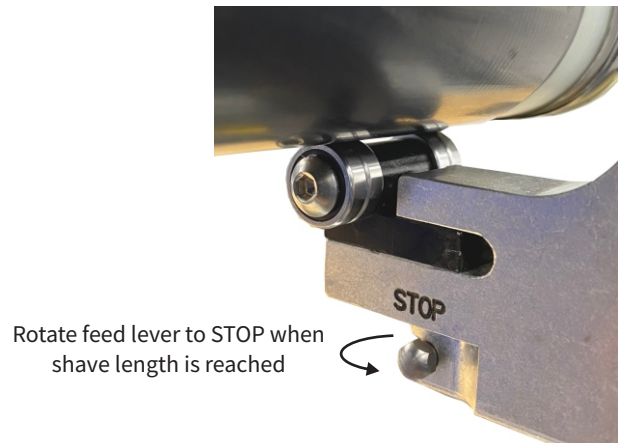

Fig. 4
8. After shaving to the desired length, move the feed lever to the stop position (Fig.4). Make one full turn to finish the shaving. Carefully remove the tool from the cable.